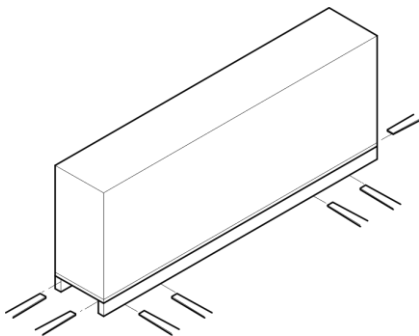

Fig. 33: Transport of pallets with the forklift
1. Drive the forklift so that the forks are between or under the beams of the pallet (Fig. 33).